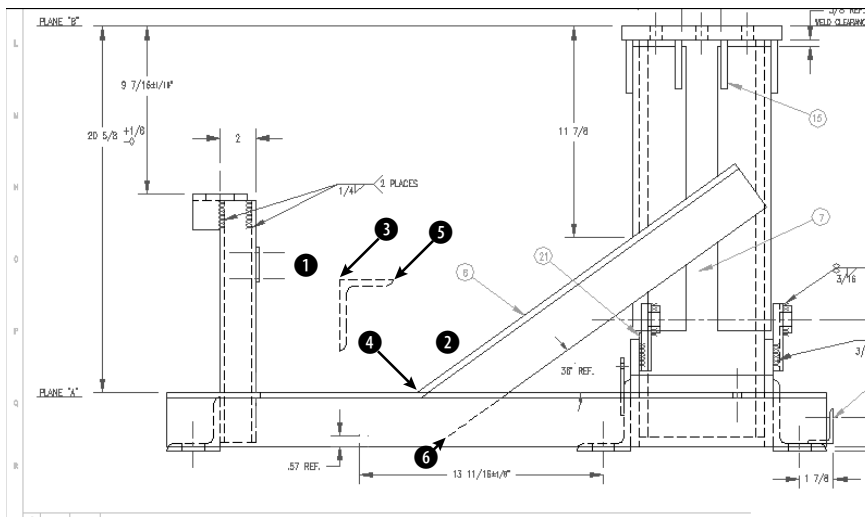

**Figure 10-12:** A base assembly for a commercial washing machine.
2. Save the file as *ab10-04.dwg* in your AutoCAD Bible folder. It looks like Figure 10-12.
Specify base point or [Copy]: *Pick the endpoint at ❸ in Figure 10-12.*